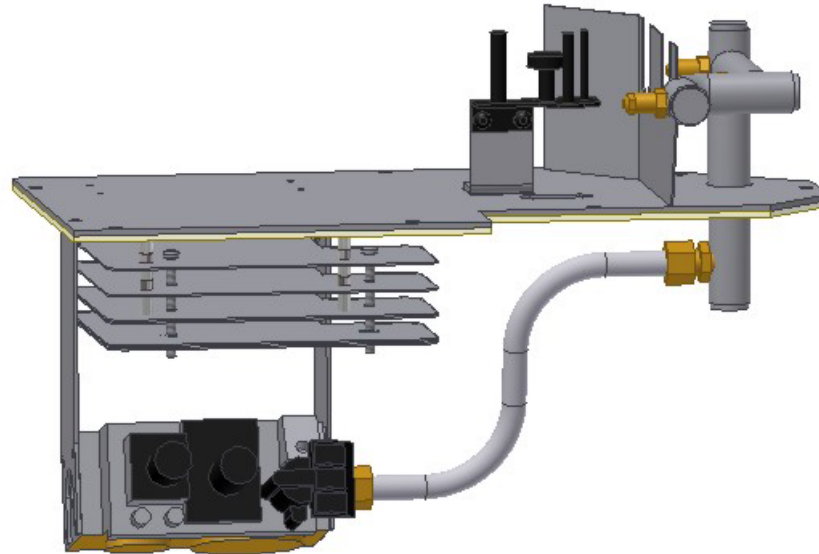

FIGURE 7: GAS VALVE ASSEMBLY
- STEP 8** Lift the complete gas valve assembly out of the stove. FIGURE 7 shows the assembly.